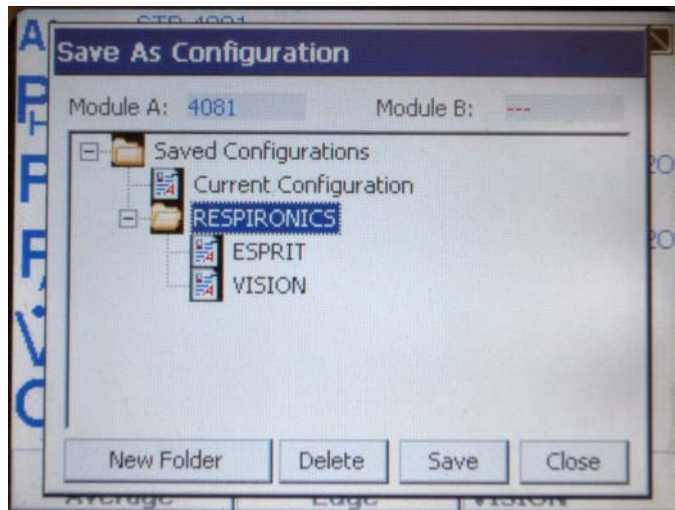

Figure 8-8: Saving a New Configuration to the RESPIRONICS Folder (Certifier FA Plus)
4. Highlight *RESPIRONICS* and touch **Save** (Figure 8-8).